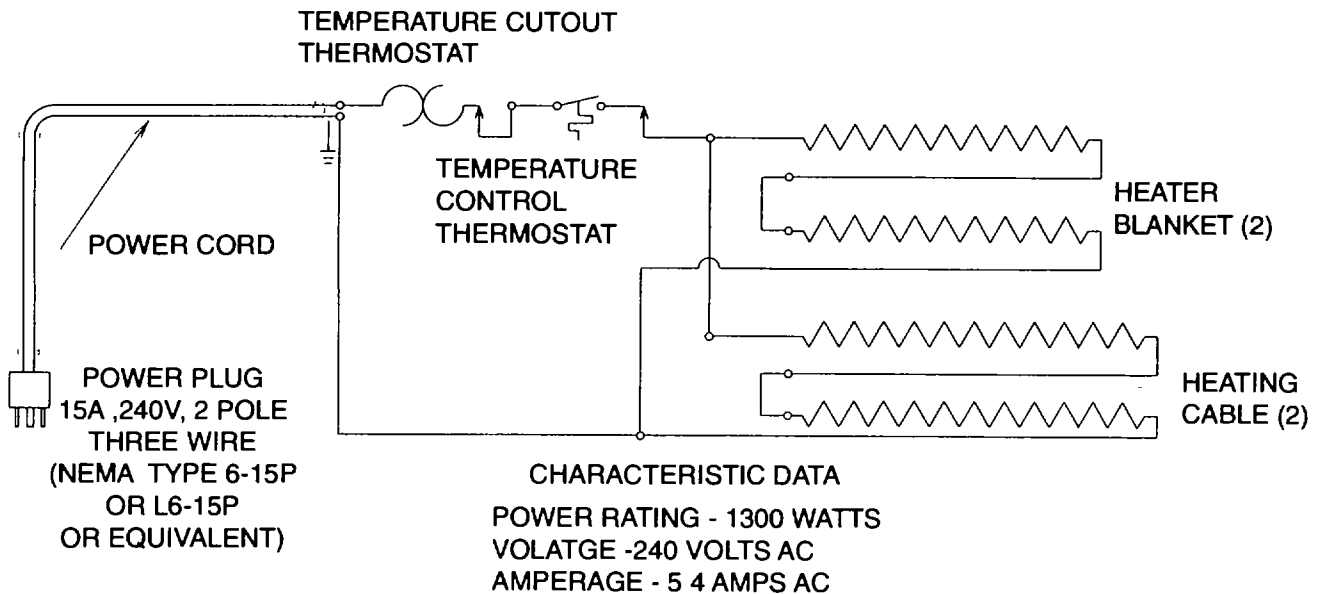

Figure 4-24. AFFF Tank Heater Electrical Schematic
- (8) Remove two screws (9), lock washers (10), and nuts (11). Discard lock washers.
- (9) Remove two screws (12), cover (13), and rubber pad (14).
- (10) Tag and disconnect heater blankets (15) leads.
- (11) Remove insulation wrapper (16) and blanket (17)
- (12) Remove insulation wrapper (18) and blanket (19).
- (13) Remove any remaining adhesive sealant from around fill collar (20) and insulation wrapper (16)
- (14) Tag and disconnect wire leads from power plug (1). Remove power cord (21) from power plug.
- (15) Tag and disconnect power cord (21) leads from inside enclosure (22). Remove and discard terminal lug (23).
- (16) Remove power cord (21) and strain relief (24)
- (17) Tag and disconnect wire leads (7) Remove wire leads.
- (18) Refer to wiring diagram figure 4-23 and schematic figure 4-24 to tag and disconnect temperature control thermostat (25) and temperature cutout thermostat (26) leads inside enclosure (22). Tag and remove thermostats
- (19) Remove knock out plug (27).
- (20) Remove four screws (28) and enclosure (22).
- (21) Remove heater blankets (15). If heater blankets are to be reused, protect adhesive backing from damage.
- (22) If necessary clean tank (29) area where heater blankets (15) were removed.
- (8) Carefully install insulation blanket (19) and wrapper (18) Feed blanket heater (15) leads through hole in insulation blanket and wrapper
- (9) Carefully install insulation blanket (17) and wrapper (16).
- (10) Coat the tank (29) contacting surface of temperature control thermostat (25) and temperature cutout thermostat (26) with heat sink compound. Install two screws (9), new lock washers (10), and nuts (11)
- (11) Seal the insulation exposed around the fill collar (20) with adhesive sealant to prevent water from settling around fill collar and being absorbed into insulation blanket (17)
- (12) Connect wire leads inside enclosure (22), for voltage being used, per tags and wiring diagram figure 4-23 and schematic figure 4-24.
- (13) Install rubber pad (14), cover (13), and two screws (12).
- (14) Install fill cap (8)
- (15) Install heating cables (6). Secure to pipe with electrical tape